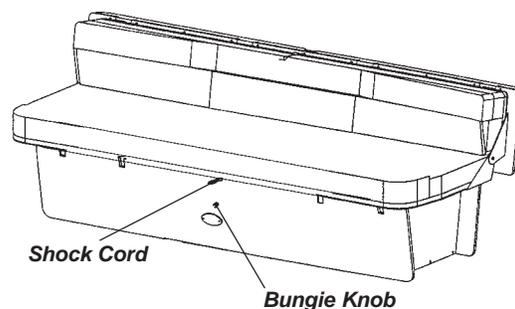

Figure N15: Pullout Lounge Assembly
5. Secure the shock cords around the knobs on the seat base assembly. See Figure N15.